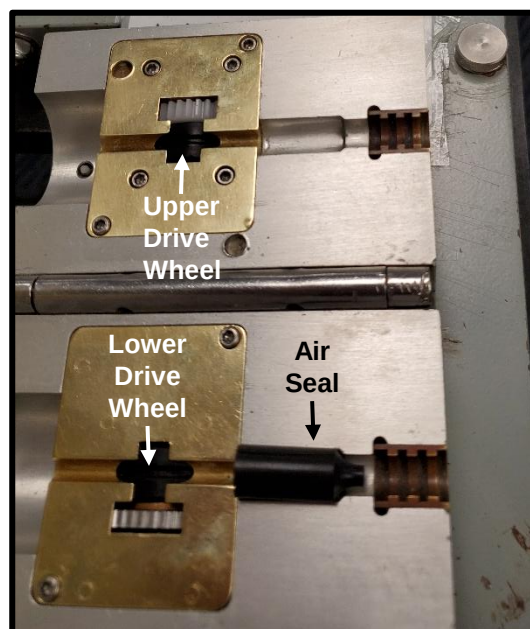

Figure 22
10.3 Select the correct type/size Fiber Bundle Air Seal for the Fiber Bundle to be installed and inspect it for wear. There should be a 3mm Air Seal already Installed in your Blowing Head. **See Fig. 22.** (Air Seal Must Always Face Slit Down)